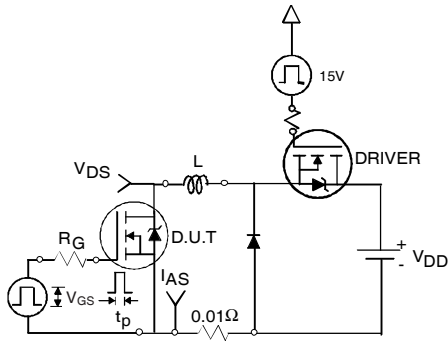

Fig 12a. Unclamped Inductive Test Circuit
- ③ Pulse width $\leq 1.0\text{ms}$; duty cycle $\leq 2\%$.
- ④ $C_{oss\text{ eff.}}$ is a fixed capacitance that gives the same charging time as C_{oss} while V_{DS} is rising from 0 to 80% V_{DSS} .
- ⑤ Limited by T_{Jmax} , see Fig.12a, 12b, 15, 16 for typical repetitive avalanche performance.
- ⑥ This value determined from sample failure population, starting $T_J = 25^\circ\text{C}, L = 0.10\text{mH}, R_G = 25\Omega, I_{AS} = 75A, V_{GS} = 10V$.
- ⑦ This is applied to D²Pak, when mounted on 1" square PCB (FR-4 or G-10 Material). For recommended footprint and soldering techniques refer to application note #AN-994.
3. Equation below based on circuit and waveforms shown in Figures 12a, 12b.